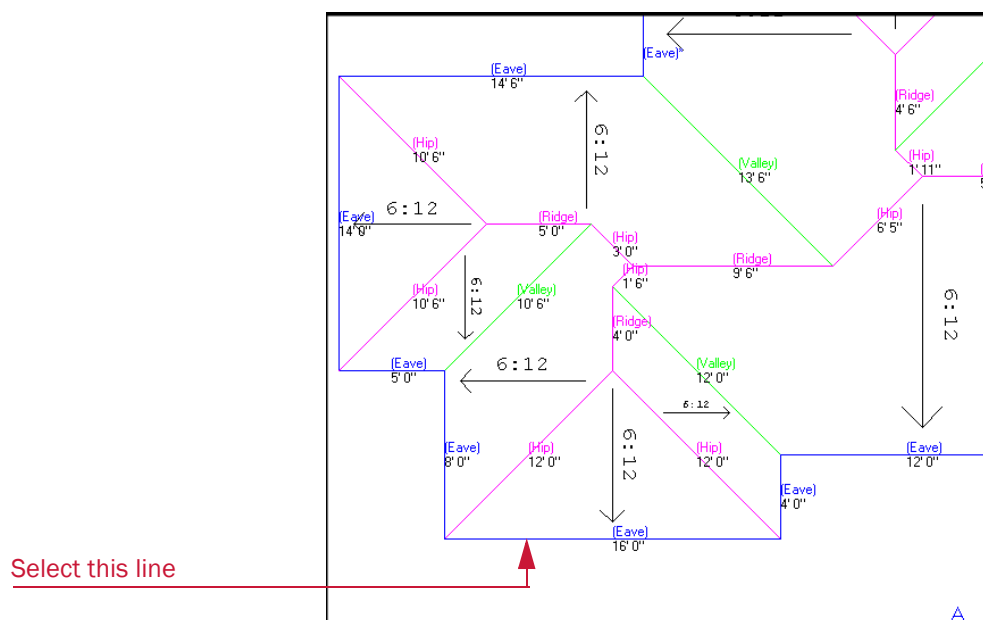

Figure 2-1 Select the eave line
2. Select the eave line indicated in *Figure 2-1*.